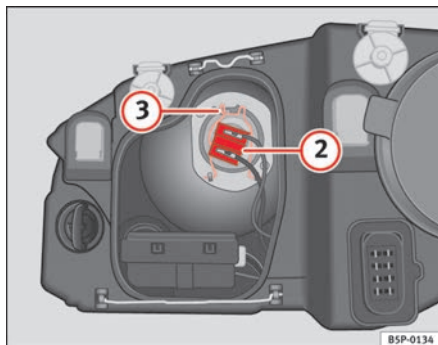

Fig. 165 Dipped head-lights
- Remove the connector ⇒ fig. 165 ② from the bulb.
- Disengage the retainer spring ⇒ fig. 165 ③ pressing inwards and to the right.